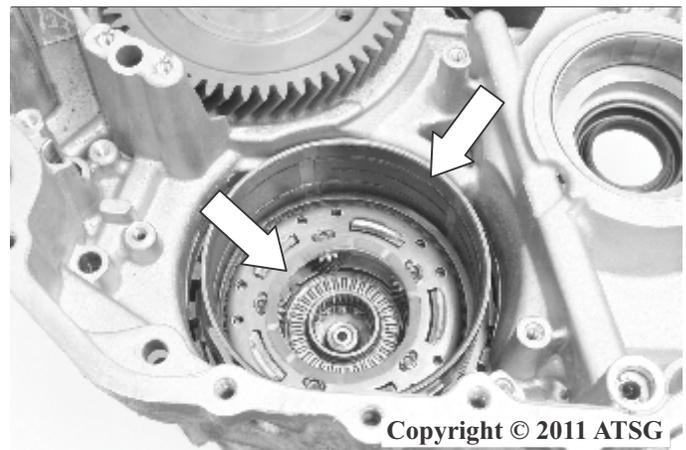

Figure 47
65. Remove the third gear (B4) band assembly from the case as shown in Figure 47.
66. Remove the upper 1-2/Reverse planet carrier thrust washer as shown on the previous page in Figure 47.